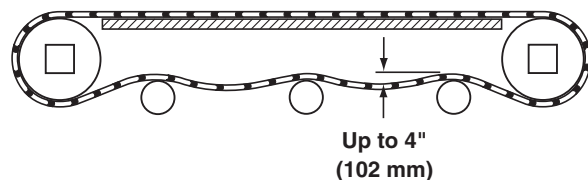

Figure 34
7. Check belt sag by measuring from the top of the return (Figure 34).